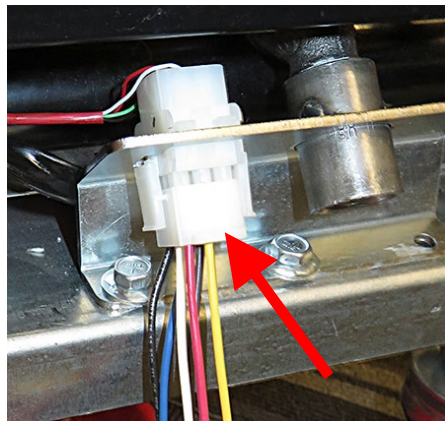

Figure 33
37. Attach the 1085398 9-pin male connector to the 9-pin female connector (see Figure 33).
47. Use the wiring diagram on the back page for reference when attaching any wiring from an external bulk system. Connect the wiring to the harness next to the DISPOSE connector, on the rear of the fryer (see Figure 33).
49. Once fryer has powered up, wait one (1) additional minute with